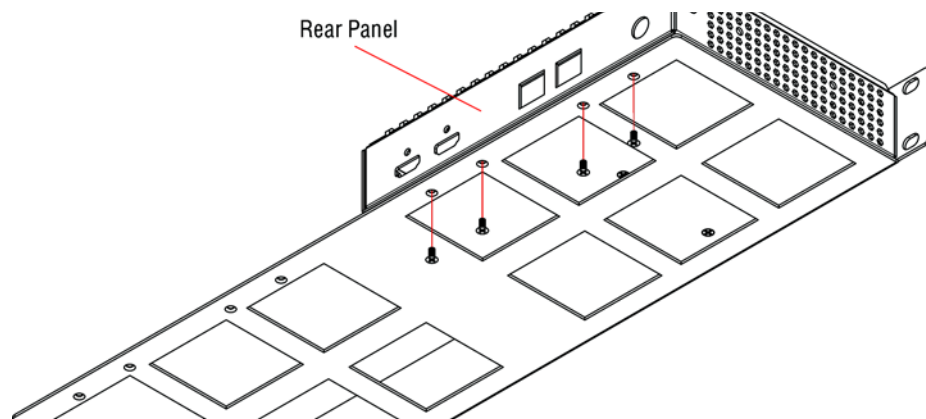

Figure 8. Installing 4 screws to the underside of the rack mount
3. Install the 4 screws that were removed in step 1 (see **figure 8**).